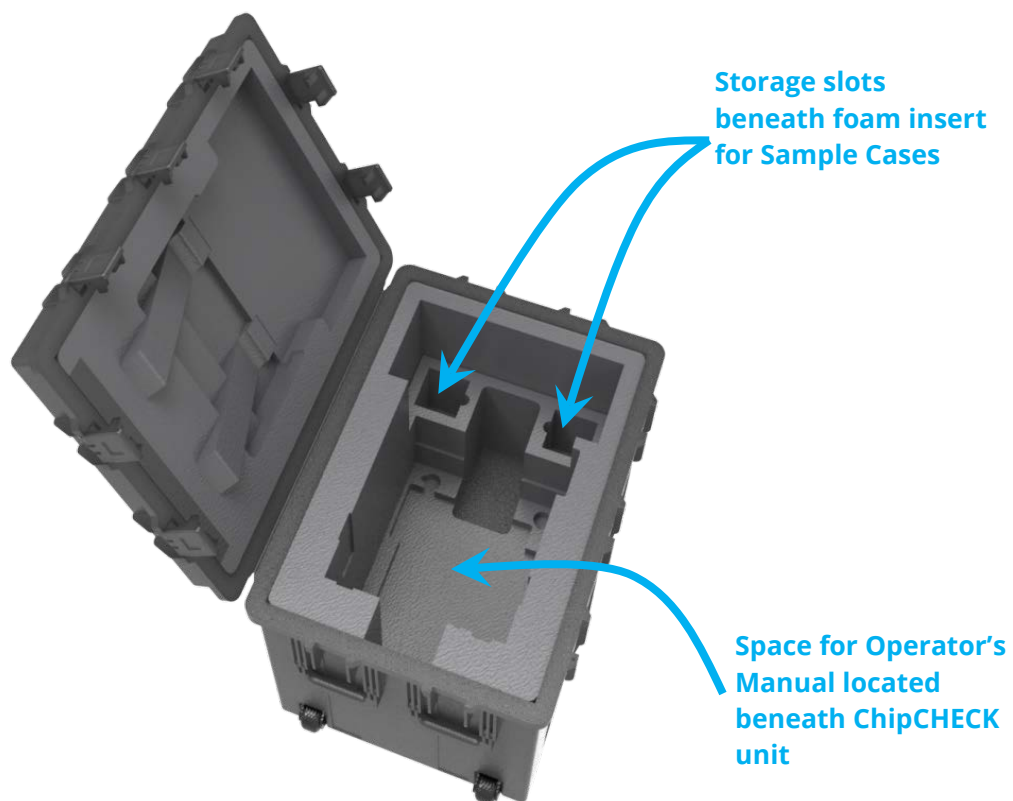

Figure 7-3: Transport Case Storage Locations (Foam insert removed)
**NOTE:** Slots for storing accessories can be found in the foam insert, and in the foam lining of the case underneath the foam insert see Figure 7-3 and 7-4.